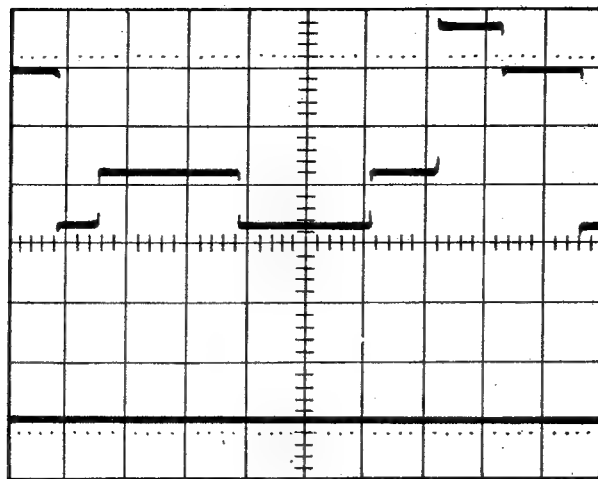

Fig. VIII-2. Instantaneous voltage measurement using the line written by channel Y_B as a reference marker
- Use the X POSITION control to align the instantaneous voltage point which has to be measured, with the vertical centre-line of the graticule, as shown in Fig. VIII-2.